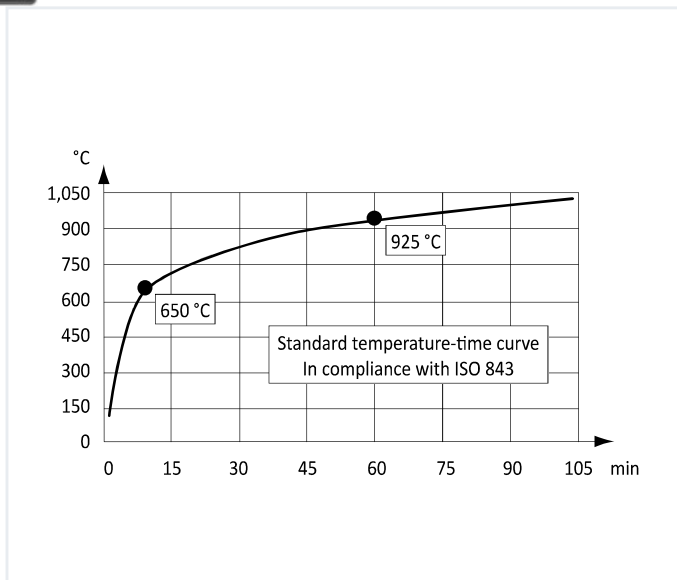

Figure 1: Temperature rise in a test room fire simulation
2. That allows no more than 30 l/h measured in air to pass through or escape from the device for a period of at least 30 minutes at temperatures up to 650 °C (Maxitrol tested up to 925 °C) when tripped. (Figure 1, page 2 shows that during a fire the temperature reaches 700 °C within 15 minutes.)